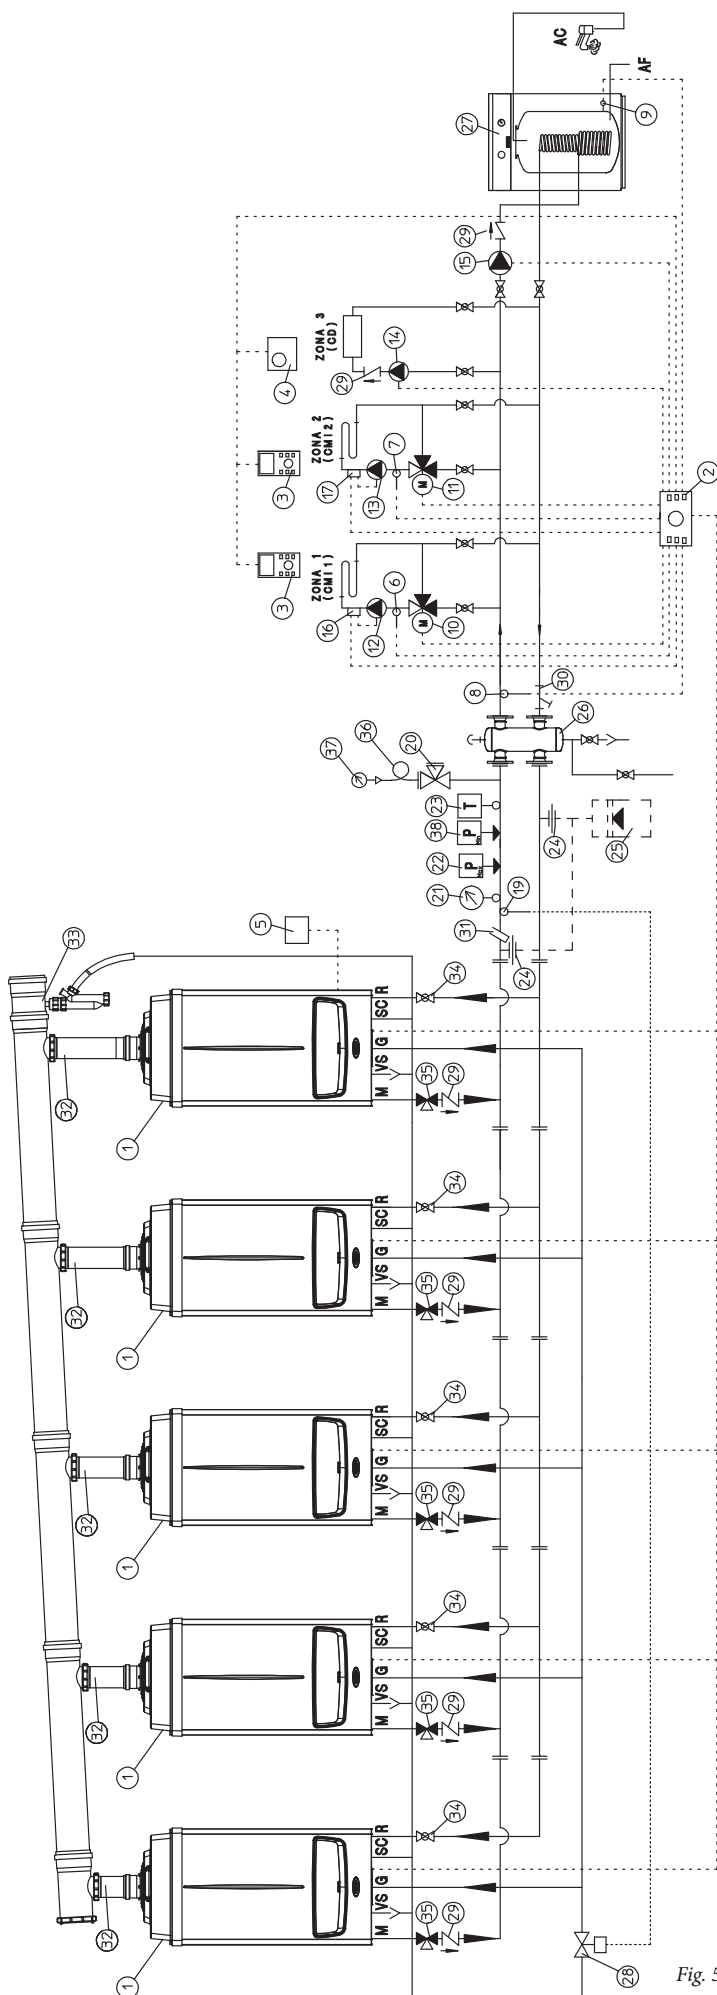

Fig. 5
**N.B.:** before closing one or both the system cut-off cocks (34) figure 5, the boiler must be switched off.